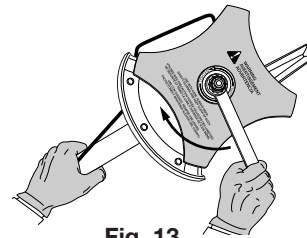

Fig. 13
- Hold the locking rod in place by grasping it next to the boom of the unit (Fig. 13).
- While holding the locking rod, loosen the nut on the blade by turning it clockwise with a 13 mm closed-end or socket wrench (Fig. 13).